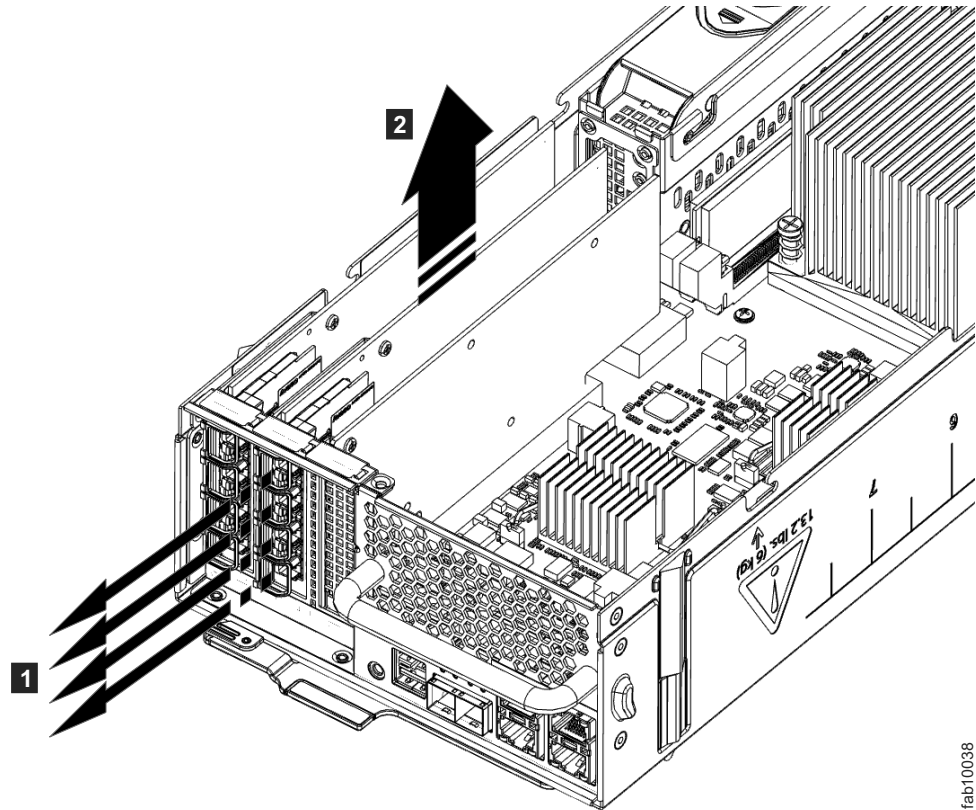

Figure 107. Removing the host interface card
5. Gently pull the host interface card upward to disconnect it **2**, and then carefully remove it from the canister **1**. Figure 107 on page 351 displays removing the host interface card.